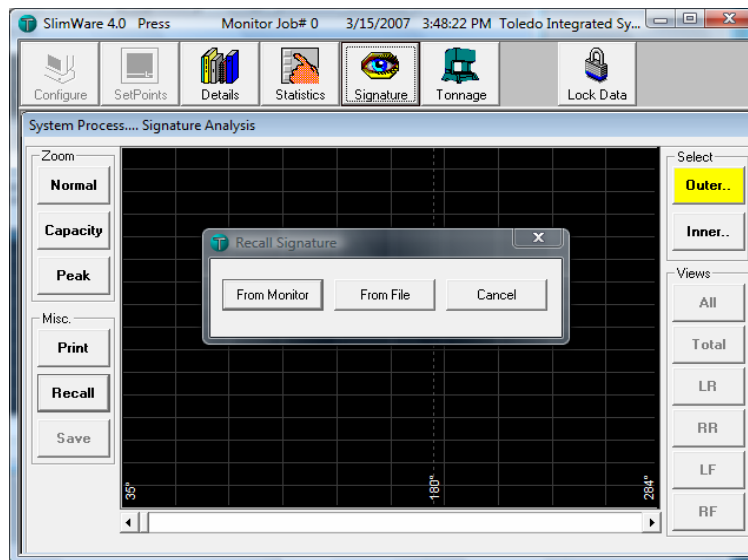

Figure 9.6 - Recall Signature Prompt Box (Select From File)
- Select the Recall button on the System Process window. The **Recall Signature** prompt box will be displayed as shown in Figure 9.6. Click the button **From File**.